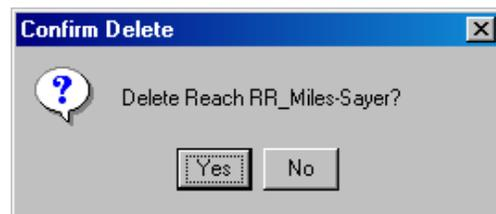

Figure 8.14 Confirm Delete Reach Dialog Box
3. Select **Delete** from the shortcut menu. A **Confirm Delete** dialog box will appear (Figure 8.14).